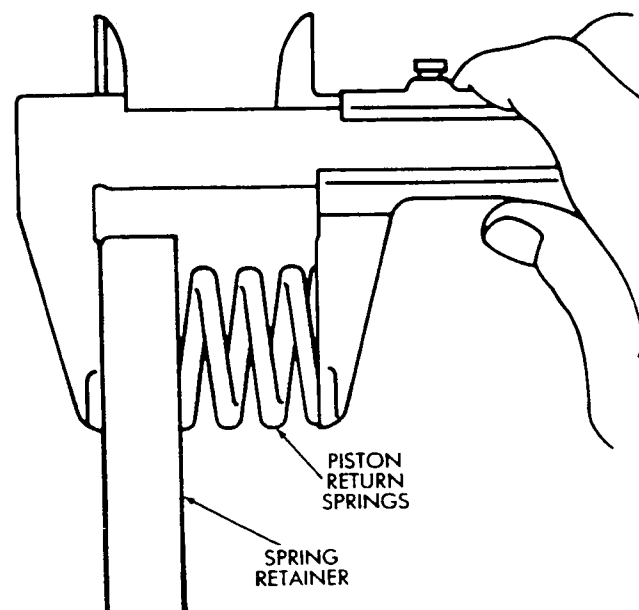

Fig. 7 Checking Piston Return Spring Length
(9) Measure free length of piston return springs with springs mounted in retainer (Fig. 7). Length should be 18.61 mm (.733 in).
(10) Clean support components and dry them with compressed air.
(11) Inspect overdrive support and brake piston. Replace support and piston if either part is worn or damaged.